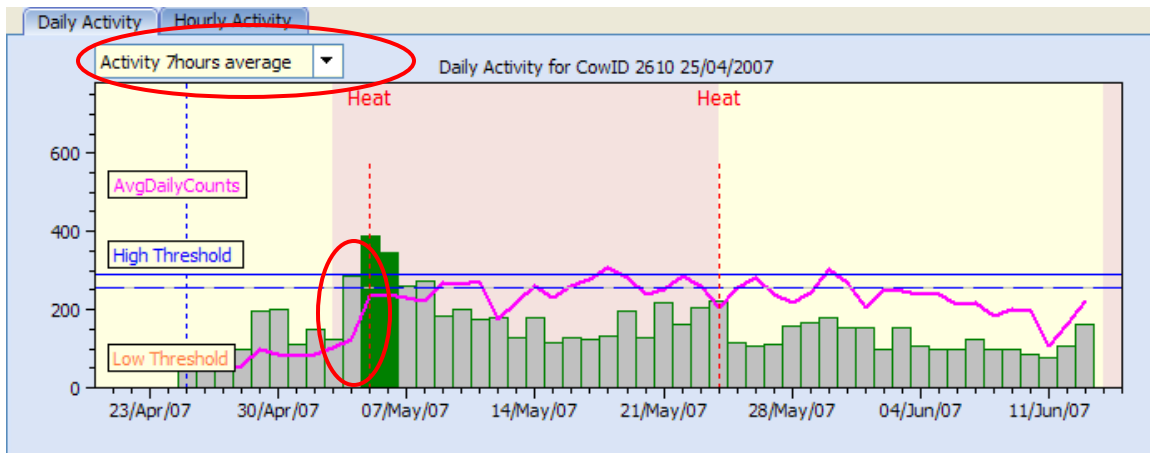

Figure 12 Daily Activity tab.
- The graph defaults to the 'Daily Activity' tab situated at the top left of the graph as you can see in Figure 12 above. Each bar in the graph represents a daily activity downloaded for the selected CowID, i.e. each bar represents activity levels on a given date. If you place the mouse over a given bar, the date at the top of the graph, listed next to the CowID, will change to the data that the particular bar represents.
- Normally each bar is grey in colour but will change to green for 'Active' CowID's. In order for the bar to turn green, its activity level must exceed the 'High Threshold' value and **sometimes** the 'Lower Threshold' value which are denoted by the solid blue line and dashed blue line in Figure 12 above.
In Figure 12 above, the grey bar circled in red, exceeded the lower threshold value but not the high threshold value and remained grey. This is because there was no confirmed
- In Figure 12 on the previous page, the vertical dotted red line with 'Heat' over them denote events that are entered into the system. Other events include 'Inseminated' and 'Pregnant'. See section 14.3.8 for details about how to enter an event.
- In Figure 12 on the previous page, the drop down menu, circled in red, denote that the graph is displaying activity data over 7 hours.